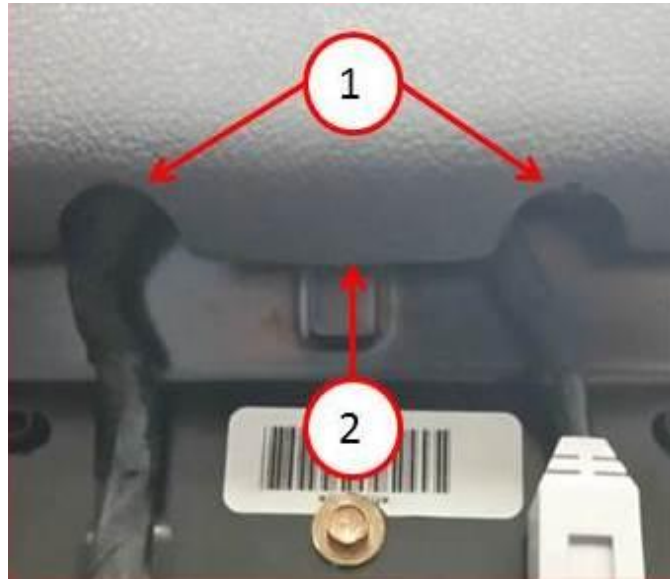

Fig. 5 Bumper Location
10. At the rear of the center console wall on the lower lid, identify the two notches as shown in (Fig. 5).